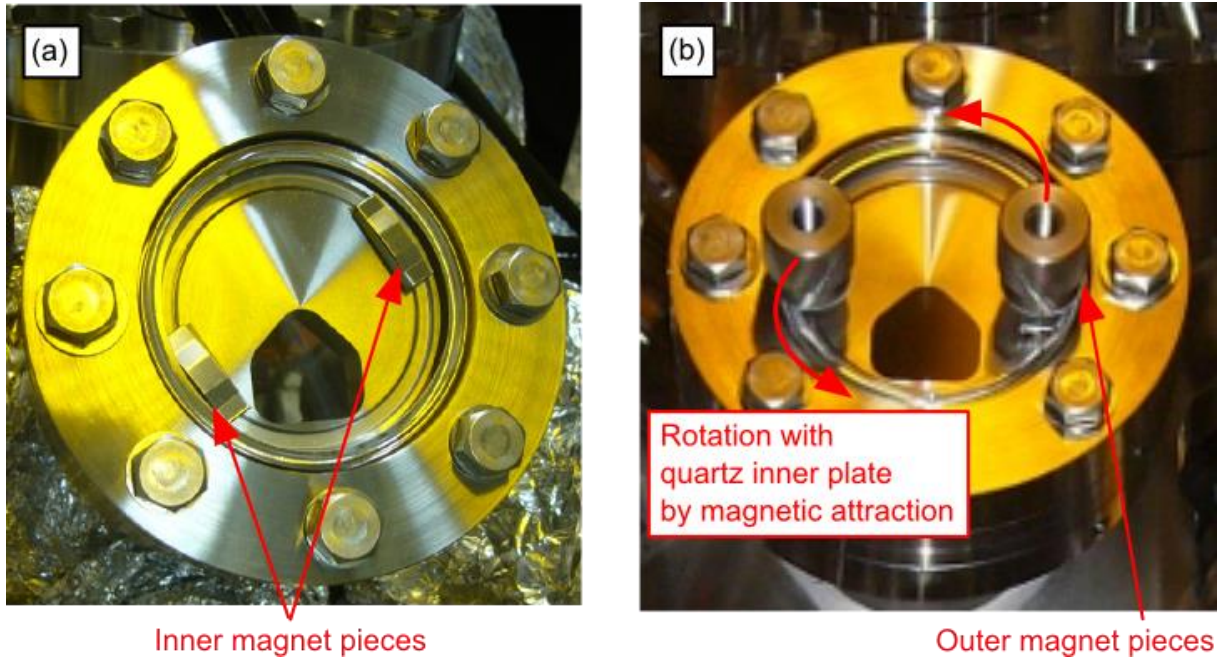

Figure 2:Rotation of internal quartz plate.
- (3) Move outer-handling magnets to rotate the internal quartz plate until clear part of the quartz plate appears (see Figure 2).